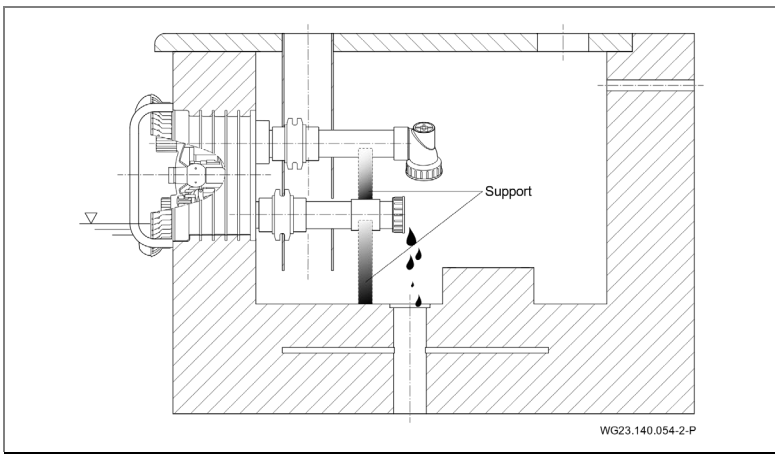

Fig. 29
- 3. Support the suction and pressure lines to relieve them. See "Fig. 29".